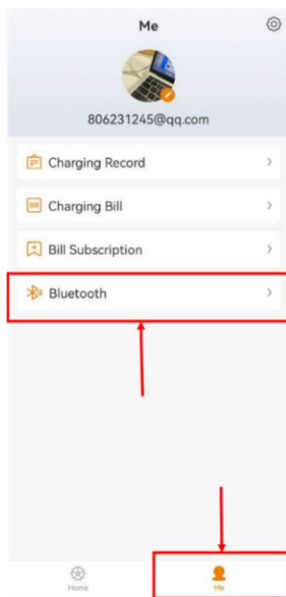

Figure 5-5: Click Bluetooth
3. Open “Star Charge” APP, click “Me” icon, and then click “Bluetooth”, as shown in Figure 5-5. Click “Add New” and scan the QR Code at the bottom right part of the charger main body as indicated in Figure 5-7. Or the user can switch to “Input terminal number” to enter the QR Code manually, as shown in Figure 5-8. To get the charger ID, the user can refer to the number underneath the QR Code on Charger main body.